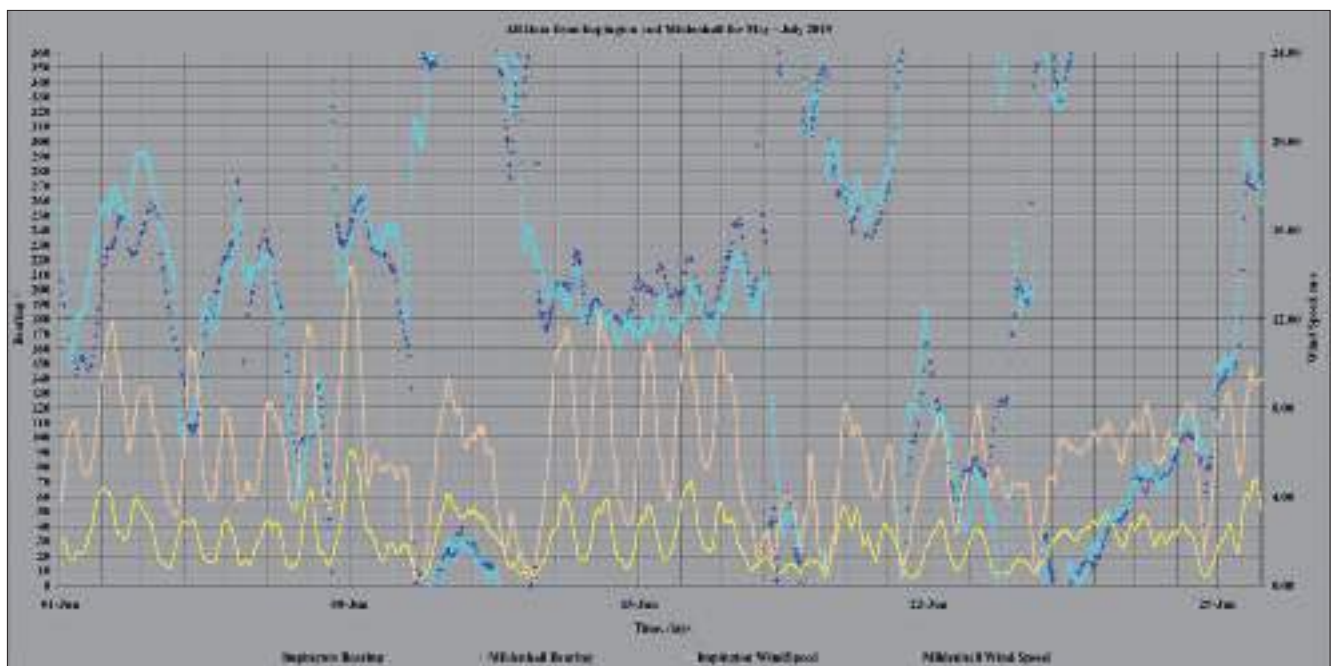

Fig. 3. Comparison of anemometer data from Impington and Mildenhall, May to June 2019.
Three types of floating/stream wheels can be identified: stream wheels in shallow subcritical flow (water flows that flow quite slowly and with low water depths), that are called Hydrostatic Pressure Wheels; stream wheels in shallow supercritical flow, called kinetic wheels (fast flows and with low depths) and stream wheels in deep flow (the common floating wheels). These types of stream wheels are depicted in Fig. 3. The most optimized design of the Hydrostatic Pressure Wheel is the Hydrostatic Pressure Machine (Fig.3d, see *Innovations* section).
*Fig. 3. Stream water wheels in: (a) subcritical shallow flow, (b) supercritical shallow flow (photo of Emanuele Quaranta), deep flow (photo courtesy of AIAMS Italy) (c), and Hydrostatic Pressure Machine (picture of Nick Linton) with diagonal blades to reduce water resistance (drag forces) at the blades (described in Innovations section) (d).*
At Impington, the anemometer was installed for three months (May to July this year) during which time the wind turned a full 360° three times. A sample of raw data is shown in Fig. 3 below. The data has been cleaned up a bit, with averages taken over two hours to smooth out the gusts and missing data removed. Even so, it's not obvious how to make sense of it.